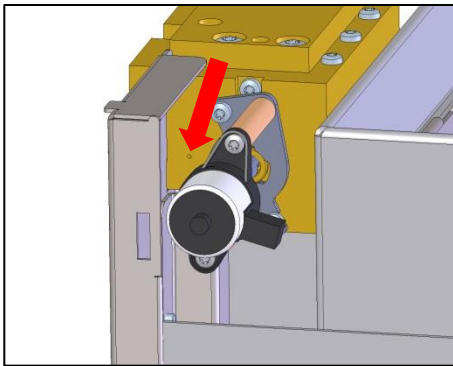

Fig. 55: Open top up level
- Slowly add tap water in the amount computed through the side opening near the switch valve (→ Fig. 55) using a nozzle.